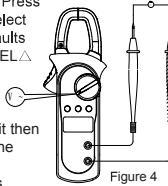

Figure 4
2. AC voltage measurement (\overline{V}) (See Figure 4)